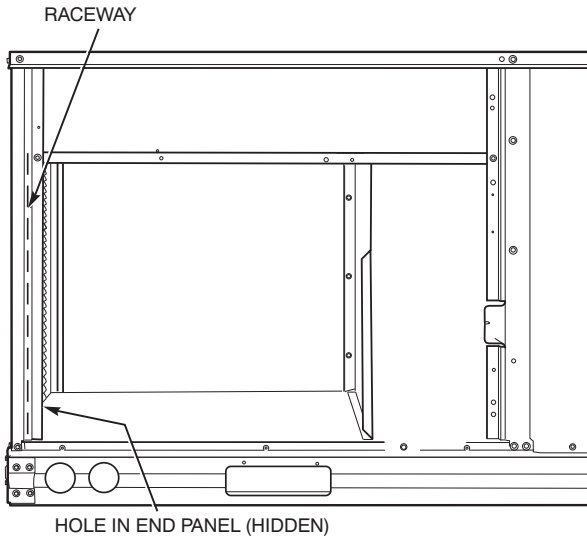

Fig. 26 - Field Control Wiring Raceway
Pass the thermostat control wires through the hole provided in the corner post; then feed the wires through the raceway built into the corner post to the control box. Pull the wires over to the terminal strip on the upper-left corner of the Controls Connection Board. See Fig. 26.
2. Feed wires through the raceway built into the corner post (see Fig. 26) to the 24-v barrier located on the left side of the control box. The raceway provides the UL-required clearance between high-voltage and low-voltage wiring.
2. Feed wires through the raceway built into the corner post (see Fig. 26) to the 24-v barrier located on the